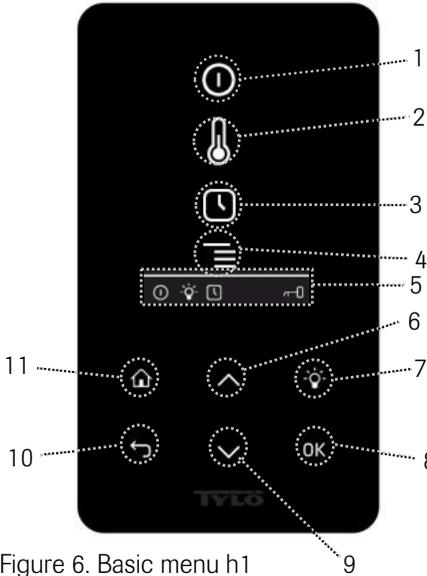

Figure 6. Basic menu h1
11. Home – Returns you to the basic menu (figure 6 or 7)